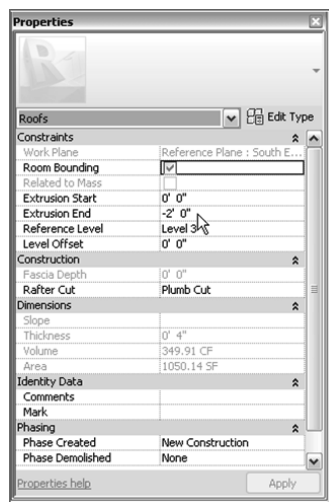

FIGURE 7.54: Setting Extrusion End
- In the Properties dialog box, set Extrusion End to -2'-0" (-600 mm), as shown in Figure 7.54.